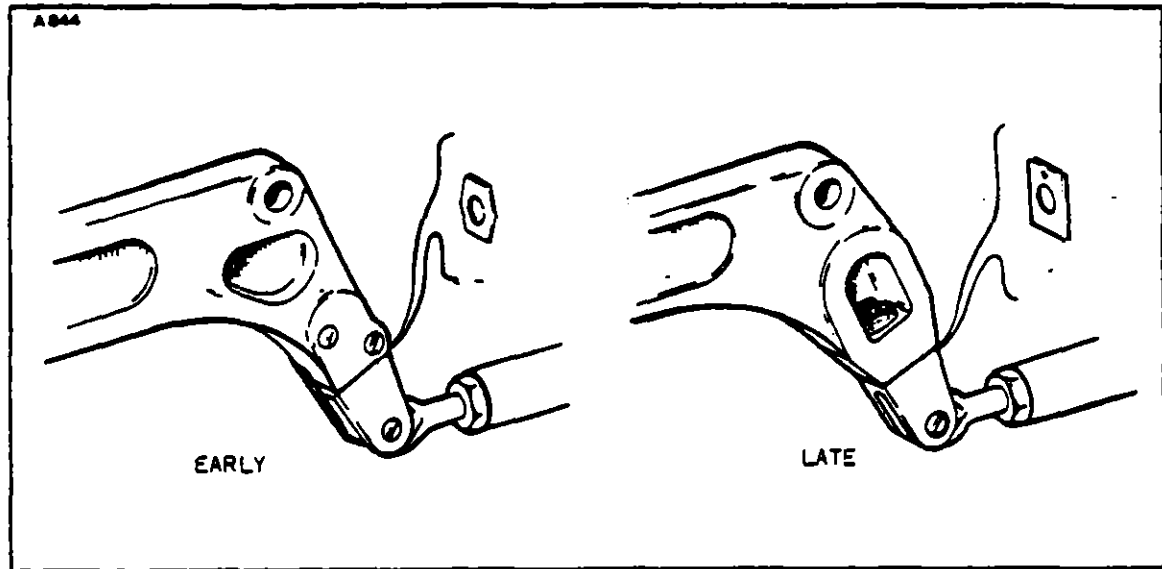

FIGURE 6-15. NOSE GEAR DRAG LINK CLEVIS
b. On early PA-24-180 and PA-24-250 airplanes, the clevis has a threaded stud which is screwed into the link assembly (refer to Figure 6-15.) A minimum of 1/8 inch and a maximum of 3/8 inch of shims may be installed. Shims are supplied in sizes of .016, 0.32, 0.64 and .125. The clevis torque must be from 13 to 40 foot pounds, properly aligned, with the counter-sunk hole side of the .064 and .125 shims against the radius of the clevis stud.
c. On late PA-24-180 and PA-24-250, and all PA-24-260 and PA-24-400 airplanes, the clevis has a locking nut applied to the threaded portion of the clevis stud (refer to Figure 6-15). Shims supplied with this clevis are .032 only and a maximum of three may be installed.